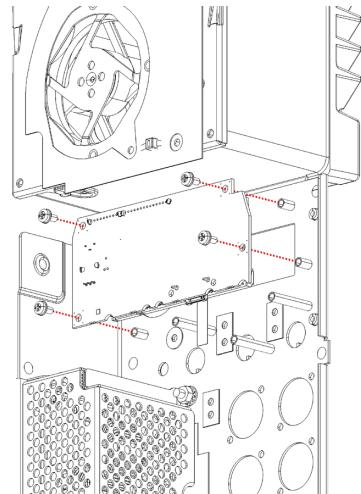

Figure 6.4.1 - LCD board assembly
3. Remove the 4 machine screws that secure the LCD board to the chassis standoffs as shown in Figure 6.4.1.
5. Fasten the 4 machine screws that secure the LCD board to the chassis standoffs as shown in Figure 6.4.1.